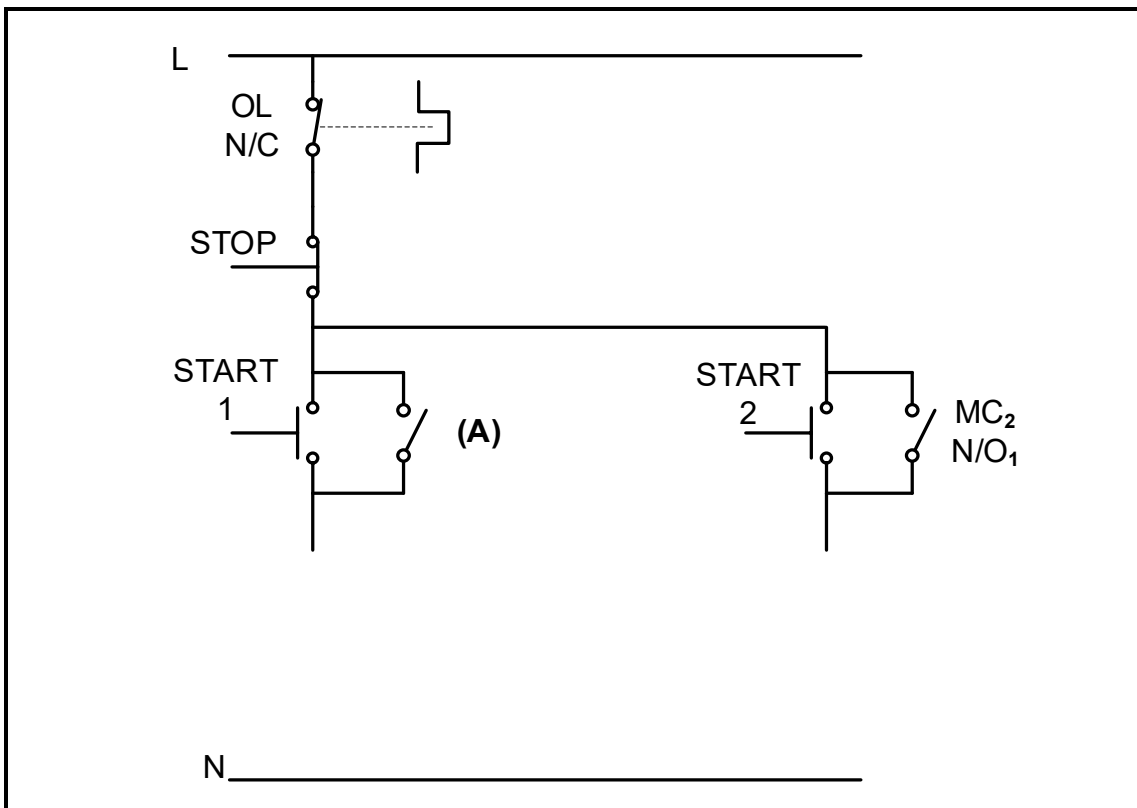

FIGURE 6.6: FORWARD-REVERSE CONTROL CIRCUIT
6.6 The circuit in FIGURE 6.6 below is used to control a three-phase motor. The motor must be able to rotate in a forward direction and in a reverse direction, but NOT at the same time. Answer the questions that follow.
- 6.6.1 Label **A** in FIGURE 6.6 above. (1)
- 6.6.5 Redraw and complete in your ANSWER BOOK the control circuit for FIGURE 6.6, on the previous page, that satisfies the requirements of QUESTION 6.6. (4)